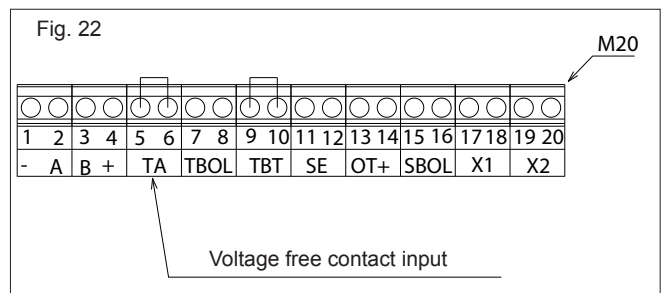

Fig. 22
- Refer to fig. 22 and below for relevant wiring connections for the envisaged controls regime: